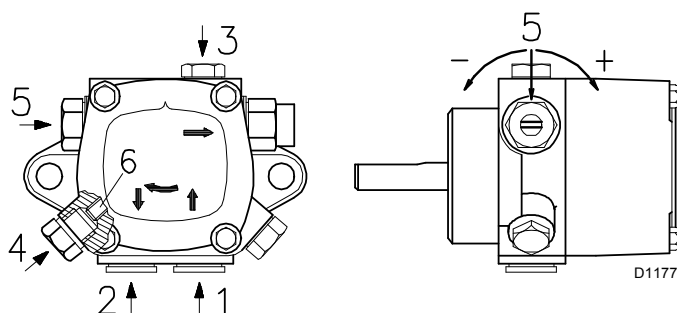
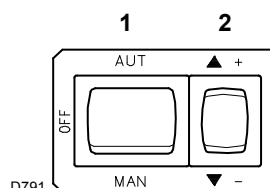

Fig. 21
Fig. 22
For the priming pump loosen the screw 3)(Fig. 21) in order to bleed off the air contained in the suction line and wait until the fuel flows out.
- For self-priming to take place, one of the screws 3)(Fig. 21) of the pump, must be loosened in order to bleed off the air contained in the suction line.
- Start the burner by closing the control devices, with switch 1)(Fig. 22) in the "MAN" position and with switch 6)(Fig. 6 at page 13) in the "OIL" position.
- The pump can be considered to be primed when the gas oil starts coming out of the screw 3)(Fig. 21). Stop the burner: switch 1)(Fig. 22) set to "OFF" and tighten the screw 3).